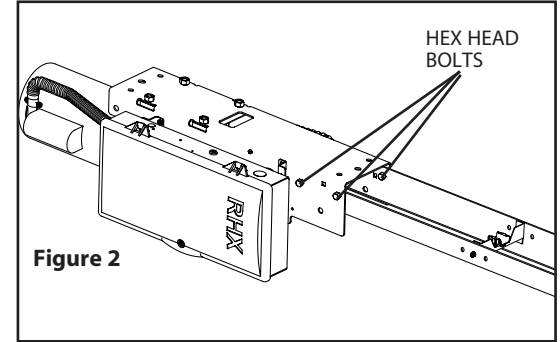

Figure 2
- 1) Attach Track to Power Unit using four (4) 7/16"-14 x 1" track bolts, 7/16"-14 keps nuts and 7/16" lock washers (provided). **Fig. 2.**